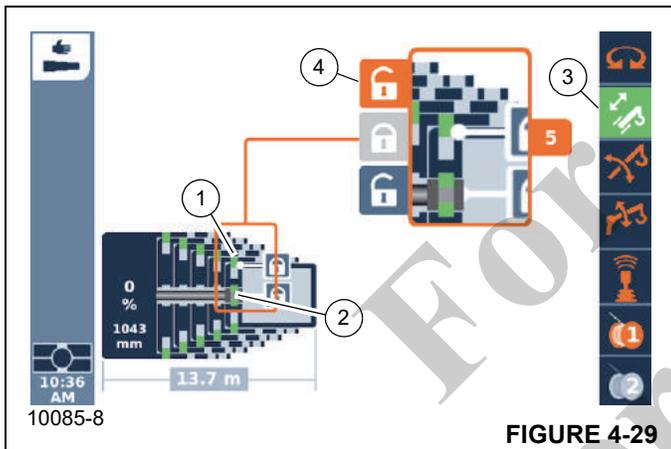

FIGURE 4-29
Telescoping function enabled – symbol (3, Figure 4-29) green
1. Select the symbol (4, Figure 4-29).